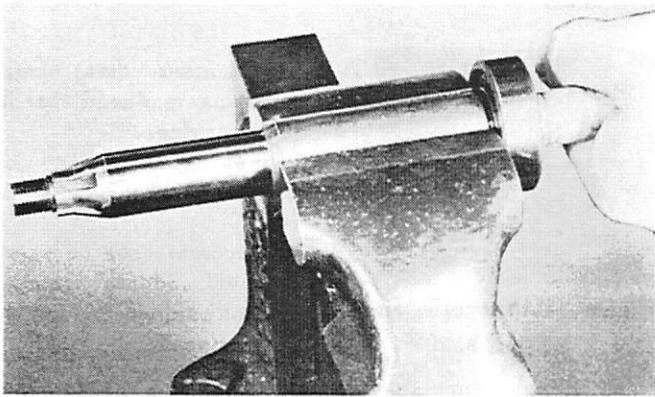

Figure 7. Removing Ball Bearing from Drive Shaft
6. Ball bearing can be removed from drive shaft by placing against open vise jaws and tapping on splined end of drive shaft with a mallet. (Figure 7)